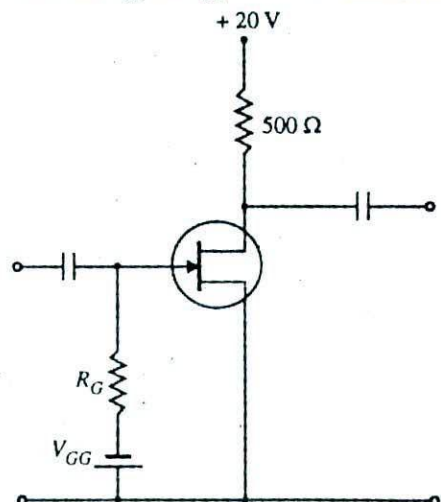

Fig. 21.29
4. For the *JFET* amplifier shown in Fig. 21.29, draw the d.c. load line.